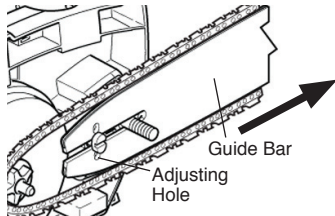

Figure 6 - Pulling Guide Bar
8. Pull the guide bar away from the saw body so that the guide bar is fully extended and the slack is removed from the chain. (See Figure 6)
11. Slowly slide guide bar into saw body until the adjustment block goes into the round adjusting hole on the guide bar. (See Figure 6) **NOTE:** This locks the guide bar in place. You should not be able to push or pull the guide bar.